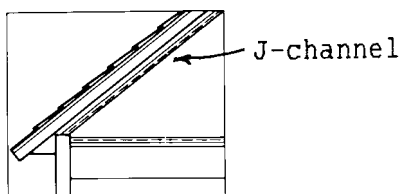

FIG. 17 Installation on Gable
9.3.8 At a gable, install J-channel along the rake boards. (See Fig. 17.) Lap the channels if necessary by cutting 1 in. (25.4 mm) off the end leaving only the face and then lap $\frac{3}{4}$ in.